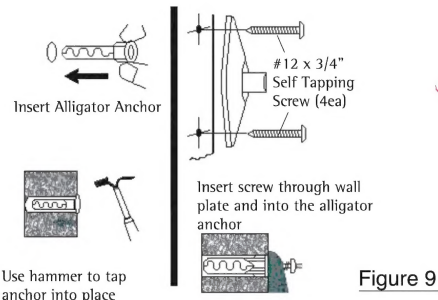

Figure 9
- 2. Drill holes in the solid concrete or hollow block using a 5/16" masonry bit. Once the holes are drilled, insert the #12-14 Alligator anchors (Figure 9) into the holes, making sure the anchor is flush with the surface of the wall (Figure 9).
- 3. With the wall anchors in place, mount the wall plate using the #12 x 1-3/4" self tapping screws (Figure 9).